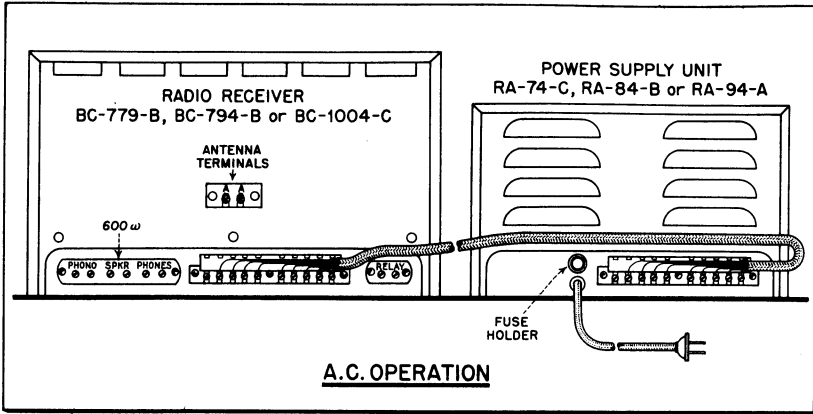

Figure 5. Cable Connections for a-c Operation
(1) Remove the sheet metal covers from terminal strip (E4) on the rear of the receiver and terminal strip (E1) on the power supply unit. See that all ten screws on each strip are unscrewed at least three turns. Then attach one end of the connector cable to each terminal strip *exactly* as shown in FIG. 5 and tighten all the screws securely. Make certain that each slotted spade lug on the cable strips makes contact with its respective screw terminal *only*, since a lug jammed between *two* of the screws could cause plenty of trouble. Then replace both metal covers immediately, and don't ever remove them while the power supply unit is connected to the a-c power line.
(2) The spacing of the spade lugs on the cable terminal strips is exactly the same as the spacing of the screws in the terminal strips on the receiver and power unit. If the two don't go together easily, DO NOT USE FORCE. Instead of cussing around and tearing things apart, sit back and take a nice calm look to see if you've been going at it the right way. Be sure *all* the screws are unscrewed far enough. If one of the spade lugs has been bent or pushed out of place by rough handling, straighten it up and try again. The spade lugs should slip under the screws from the top (FIG. 5).